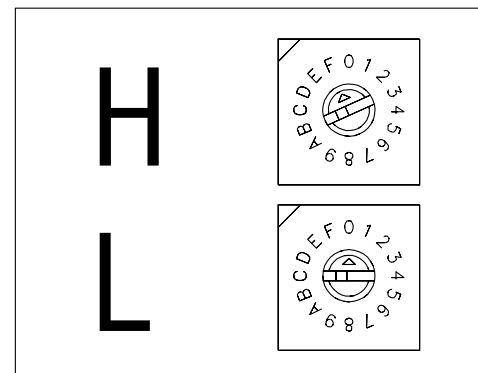

Figure 35: Address Switch Settings – Time Of Day Mode Enable
6. Rotate the L address switch to the "0" position (**Figure 35**). The "232" LED (DS1) will blink to show a change has been made:
7. To exit Diagnostics Mode, rotate the High address switch (H) to any value other than "F."